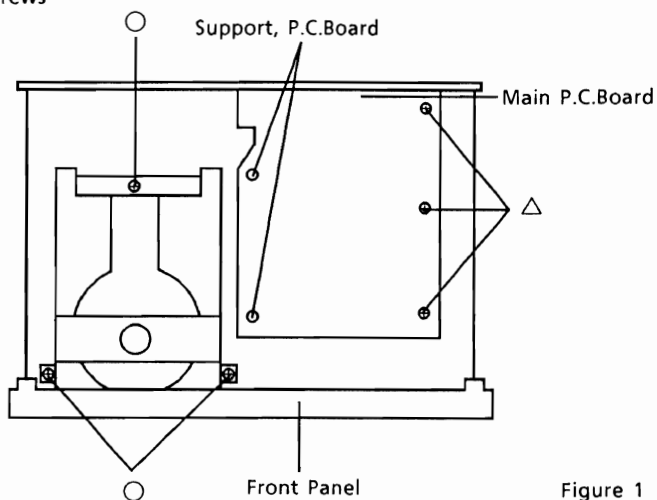

Figure 1
- (1) After removal of the Top Cover, remove three screws marked "○" as shown in Figure 1.
- (2) Disconnect all wires from the CD Mechanism.
- (1) After removal of the Top Cover, remove five screws marked "△" as shown in Figures 1 and 4.
- (2) Remove two supports, P.C.Board from the Main P.C.Board as shown in Figure 1, by pushing the point "A" as shown in Figure 3.
- (3) Disconnect all connectors from the Main P.C.Board.